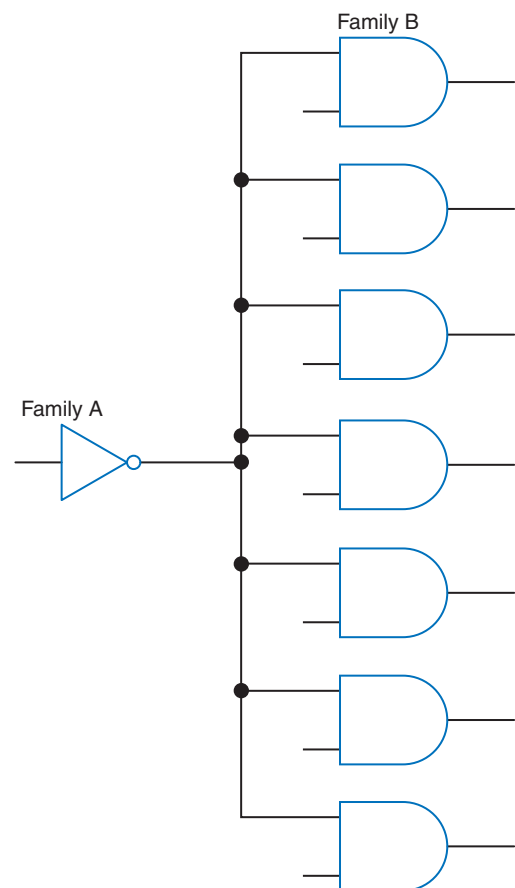

Fig. 5-44 Interfacing problem.
- 5-18. Refer to Fig. 5-44. If both family A and B are TTL, the inverter _____ (can, may not be able to) drive the AND gates.
- 5-19. Refer to Fig. 5-44. If family *A* is ALS-TTL and family *B* is standard TTL, the inverter _____ (can, may not be able to) drive the AND gates.
- 5-20. Refer to Fig. 5-44. If both families *A* and *B* are ALS-TTL, the inverter _____ (can, may not be able to) drive the AND gates.